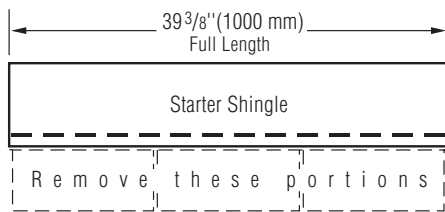

Figure 10-13: Make starter shingles by removing the lower tabs.
1. Use CertainTeed Swiftstart or a starter course consisting of the shingles from which the lower tabs have been removed (Figure 10-13). Remember, the sealant on starter courses should lay as close as possible to the eaves edge of the roof.
3. Continue with full-length starter-course shingles along the eaves. (Figure 10-13).
- Use CertainTeed Swiftstart or a starter course consisting of the shingles from which the lower tabs have been removed (*Figure 10-13*). Remember, the sealant on starter courses should lay as close as possible to the eaves edge of the roof.